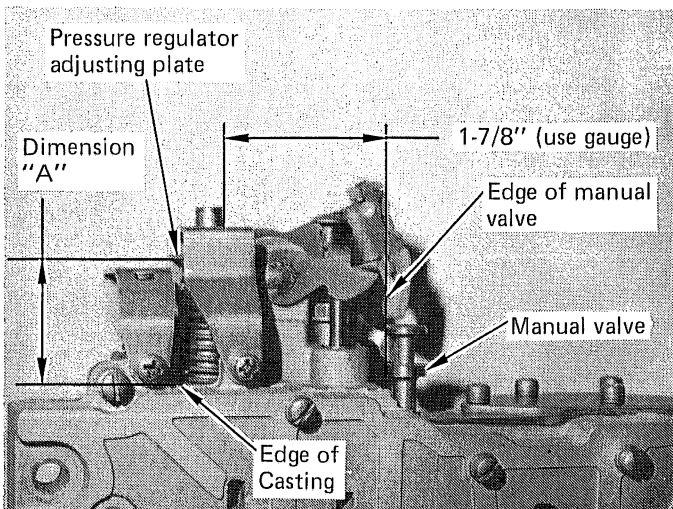

FIGURE 10
STEP 13. Tighten fourteen screws attaching transfer plate to casting on the bottom of the valve body to 30-in. lbs. Tighten all end plate screws to 35-in. lbs. Adjust pressure regulator spring retainer from side to side until the distance from the manual valve to the adjusting screw is 1-7/8". Use the gauge supplied to check this measurement. (See Fig. 10) Tighten three short retaining screws to 35-in. lbs. At this point all screws should be tight.
STEP 14. Pressure regulator adjustment: Use the gauge to adjust the distance from the casting face to the inside edge of the pressure regulator spring adjusting plate. (See Fig. 10) Use a 3/16" Allen wrench to adjust the plate to dimensions shown.